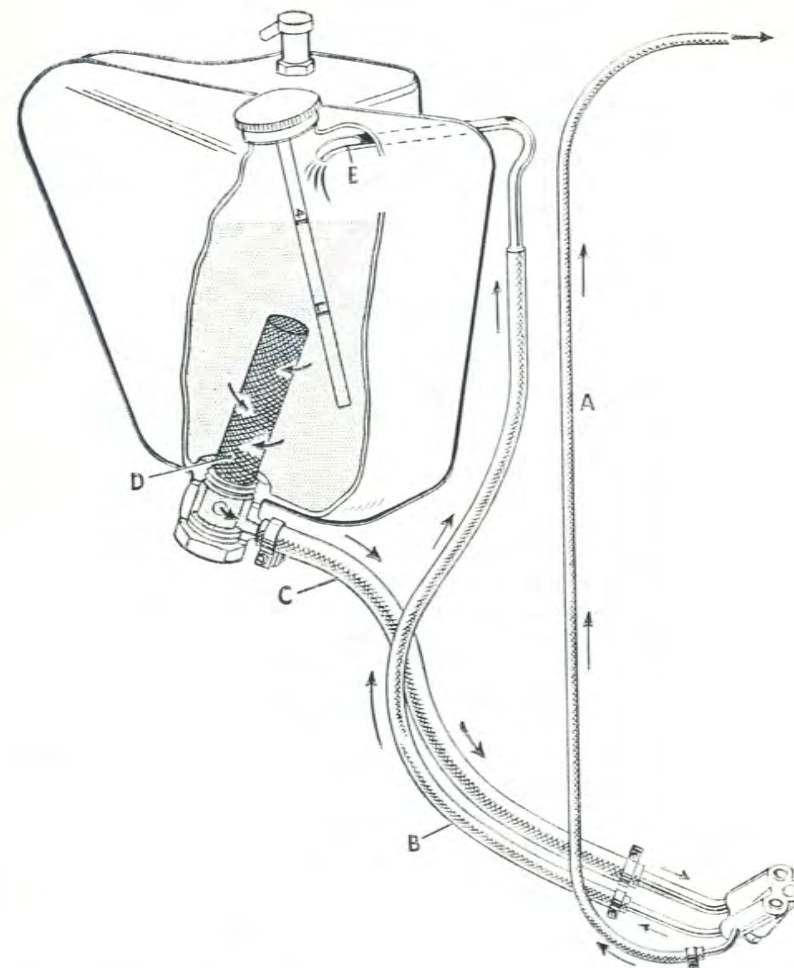

FIG. 8. The oil tank, filter, and pipe lines for the Victor Special models. (The principle is similar for all other models, but constructional details differ).
After lubricating the motor the oil flows down through a filter to the bottom of the crankcase from which it is drawn by the return pump (lower set of gears) past the non-return oil valve (C) Fig. 9, and delivered up the return pipe to the tank. If the tank filler cap is removed while the motor is running the returning oil should be seen issuing from the pipe (E) Fig. 8. The flow of oil will in all probability contain air bubbles, but this is a normal condition, and is due to the larger capacity of the return pump. **If there is no flow from the pipe, stop the motor immediately and investigate the cause (see Pump Ball Valve, page 18).**
A bypass pipe (A) Fig. 8, leads a supply of oil to the rockers, push rod ends, etc.
This should preferably be done immediately after running, so that the oil is warm and will, therefore, flow more freely. Unscrew the filter (D) Fig. 8, and drain off the oil into a suitable receptacle. After cleaning the filter, refill the tank with motor oil in accordance with the recommendations in the lubrication chart. The tank capacity is 5 U.S. pints (4 British pints), given by the line marked "4" on the dipstick attached to the filler cap.
If at any time the oil pipes are disconnected, it is essential for the delivery pipe (C) Fig. 8, from the oil tank filter to be attached to the inner crankcase union pipe when they are re-connected, i.e., the pipes cross over.